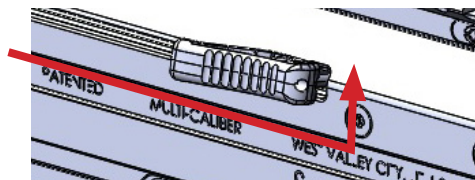

Fig. a-3
4. Gripping the charging handle (right or left side), press down and pull to the rear of the charging channel, then lock it to the rear by lifting the charging handle upwards into the locking cutout and releasing it. The charging handle should remain in the locking cutout. (Fig. a-3)